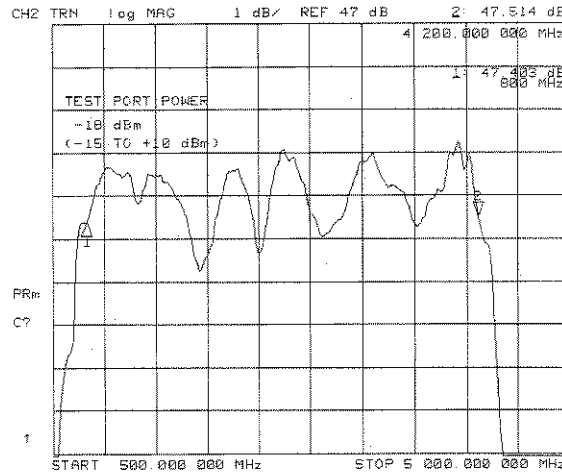

Figure 4.3.8.1
4.3.8.1 The Model 10S1G4A's typical Gain Response is shown in **Figure 4.3.8.1**. The actual gain may vary considerably from that shown in Figure 4.3.8.1, but it should be $\geq 40\text{dB}$.